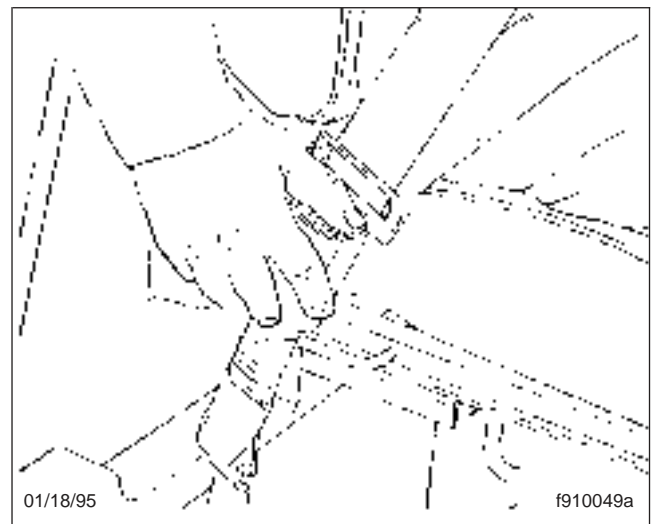

Fig. 7.11, Releasing the Three-Point Seat Belt
- To unbuckle the three-point seat belt, push the button on the buckle as shown in Fig. 7.11. If the Komfort Latch was used, release it by giving the shoulder belt a quick tug. If you lean forward against the shoulder belt, the Komfort Latch will automatically release, and will need to be reset.
6. To unbuckle the three-point seat belt, press the release button on the buckle; see Fig. 7.11.